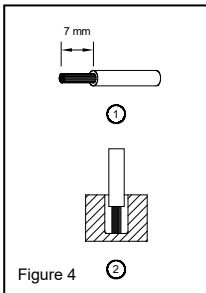

Figure 4
(1)	0.82-3.3	18-12	9.3	8.1
(2)	1.3-3.3	16-12	6.2	5.4
To secure reliable and shock proof connections, the stripping length should be 7 mm (see Fig. 4 (1)).
Please ensure that wires are fully inserted into the connecting terminals as shown in Fig. 4 (2).